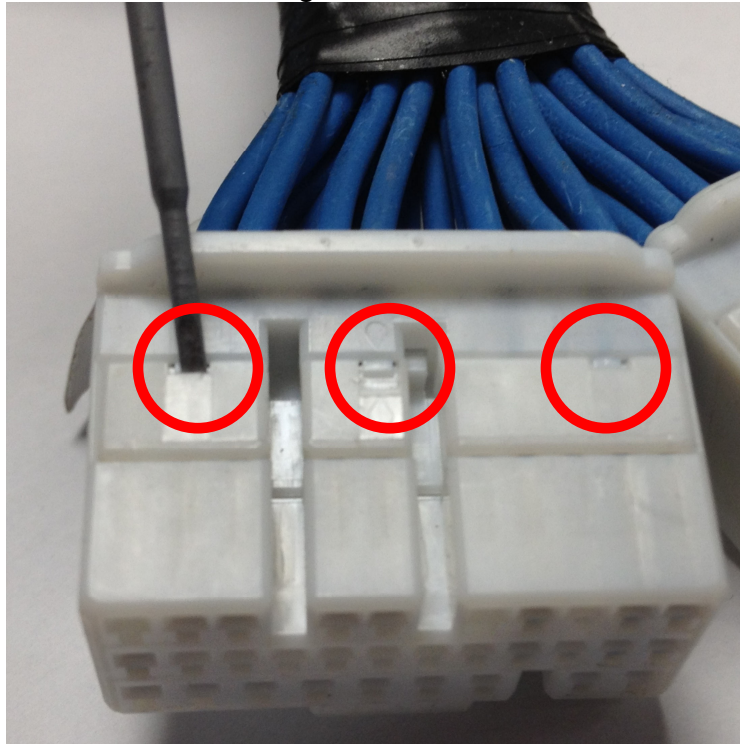

Figure 2: Pry in these areas
1. Locate a small screwdriver (a precision 1.5mm wide flathead screwdriver is recommended) and carefully pry white plastic retainer using both slots in the retainer so it disengages vertically about 1mm as shown in figures 2 and 3: